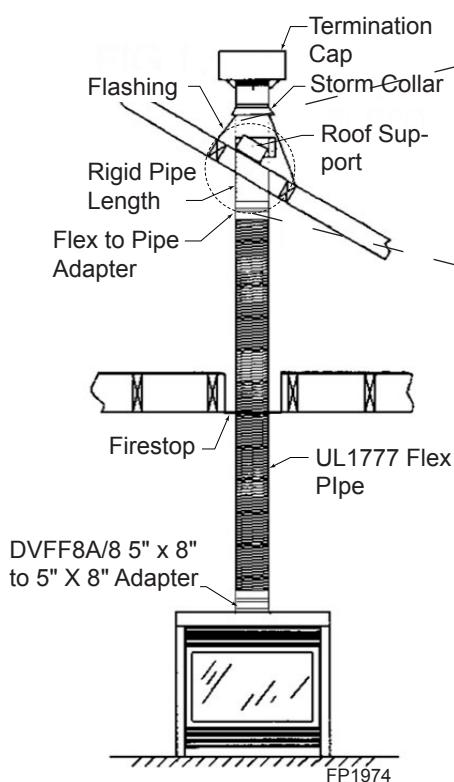

Figure 38 -
A. Installing the inner flex adapter and pipe. *Figure 38*
2. Install firestop spacers, *Figure 38*, when penetrating ceiling, attic spaces, or walls.
4. Use only listed and approved terminations and accessories, installed per the installation instructions and *Figure 38*.